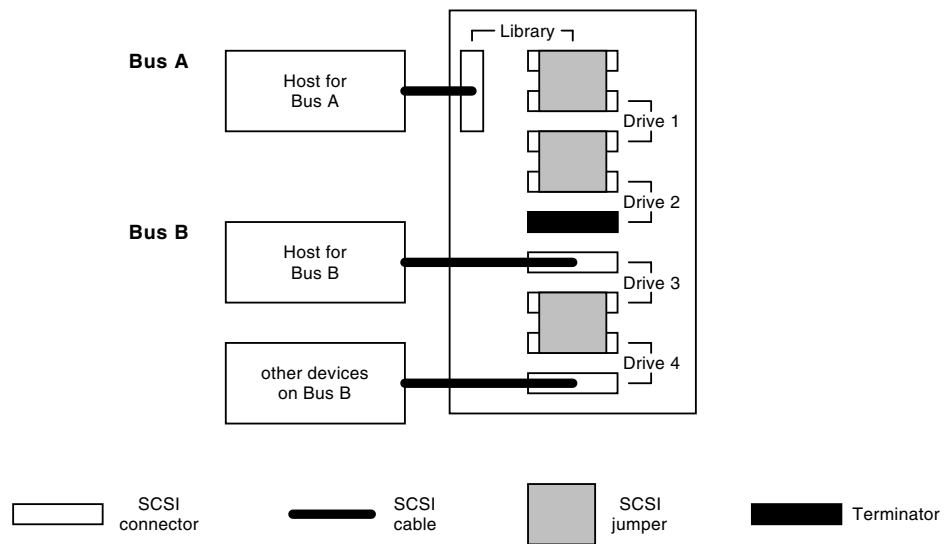

Figure 1-18 Scalar AIT 440 library with two buses and four tape drives
4. If more than one device in the library is on the same bus, place a jumper between the appropriate connectors. See Figure 1-18 for an example of a Scalar AIT 440/480 library with two buses and four tape drives.